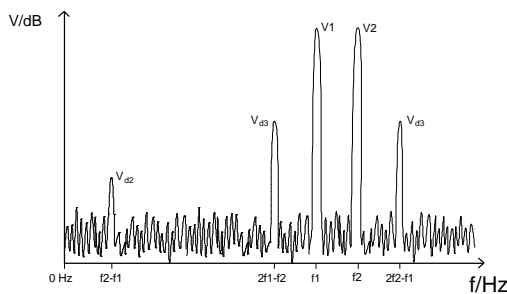

FIG. 3: Measurement of difference-frequency distortion to DIN 45403 and IEC 268-2
□ Difference-frequency distortion DIN 45403 and IEC 268-2 (d_2 and d_3 see **FIG. 3**). A large variety of different high-precision filter functions which should preferably operate in parallel (for speed) is required. Graphic display of the spectrum would also be useful. The FMA, however, has no graphic display so that another form of visualization has to be found.